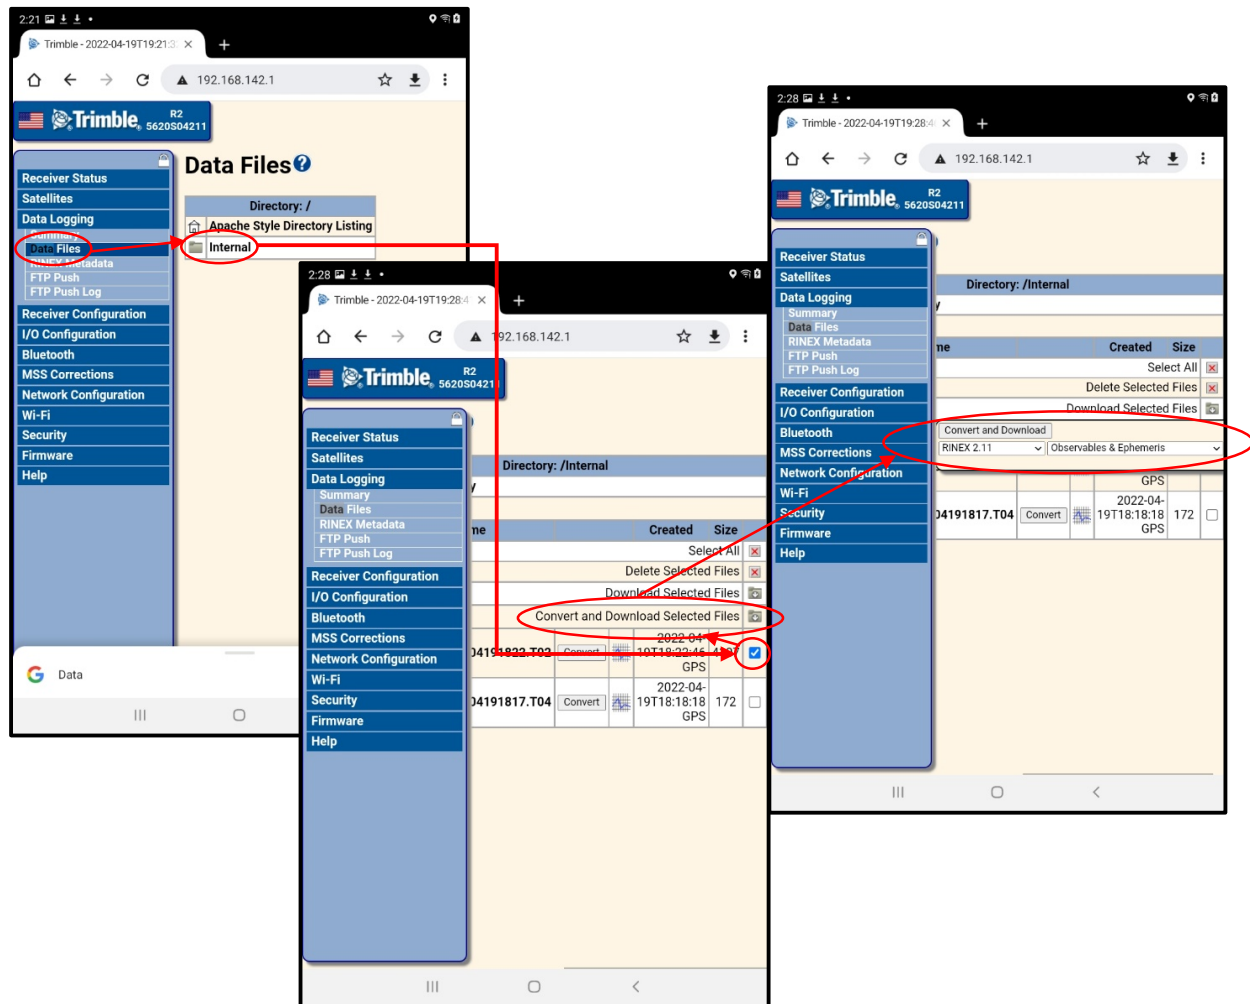

Figure 39. Figure showing Trimble R2 workflow for downloading data with red circles and arrows showing the workflow
5. Download Data files from Trimble URL (Figure 39)